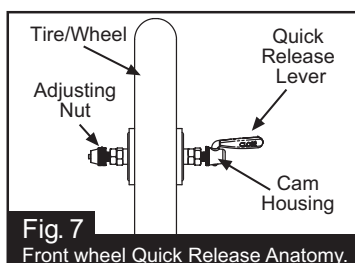
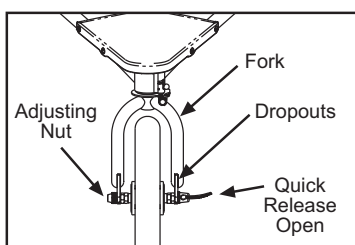
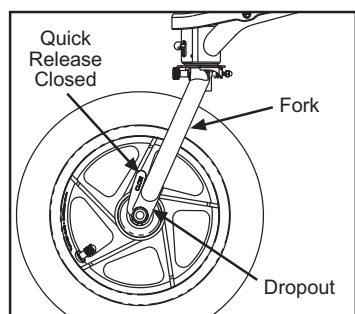

Fig. 7 Front wheel Quick Release Anatomy.
Fig. 8 Front fork dropouts shown with wheel in position. Adjust nut snug with Quick Release in open position.
Fig. 9 Quick Release in closed position and parallel to fork leg.
5. FRONT WHEEL: (Fig. 7) shows the anatomy of the front wheel and quick release. The front fork's dropouts are slotted to receive the front wheel (Fig. 8). Slide the wheel into the dropouts so that the quick release lever is on the left hand side of the stroller when the fork is rotated forward and locked in Jog Mode (see section 6). Make sure the wheel is centered in the fork and that the axle is touching the top of the drop out slot. Securely tighten the wheel in place as follows: With the quick release lever in the open position (Fig. 8), tighten the adjusting nut (clockwise) until it comes in contact with the dropout. Move the quick release lever to the closed position (Fig. 9). This should require significant pressure. If you do not feel significant resistance, turn the quick release lever back to the open position (Fig. 8), and hand tighten the adjusting nut one or two turns in the clockwise direction until snug. Move the quick release lever toward the closed position (Fig. 9). The word **CLOSE** should be clearly visible and the quick release lever should be parallel to the stroller fork leg. It should require considerable torque (80-105 in-lbs or 9-12 Nm) to close the lever when properly adjusted.